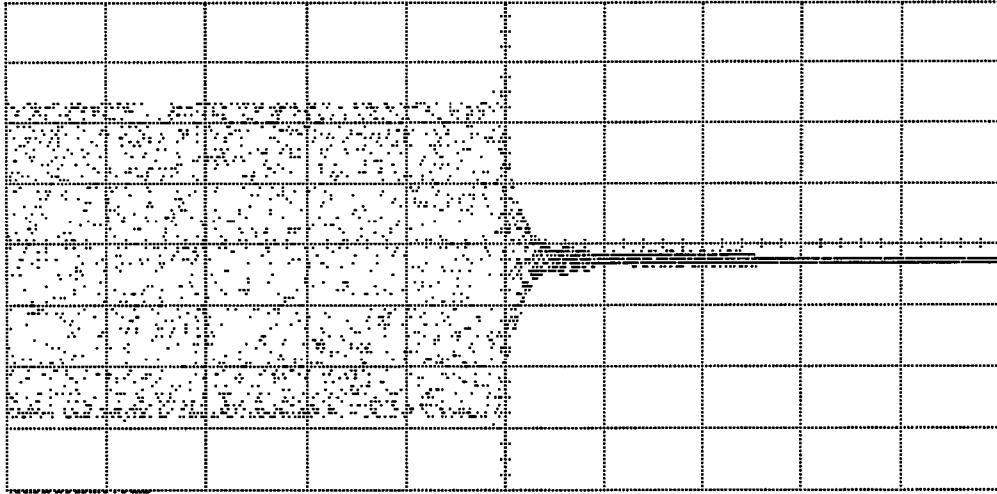

Figure 3-16. Pulse Fall Time Measurement
2. Adjust the synthesizer RF output level so that the upper half of the envelope spans 2.5 vertical graticules as in Figure 3-16.
3. Adjust the oscilloscope's horizontal **DELAY** and vertical **OFFSET** functions in order to position the falling edge of the pulsed RF so that the 10% and 90% points cross horizontal graticules. Refer to Figure 3-16.